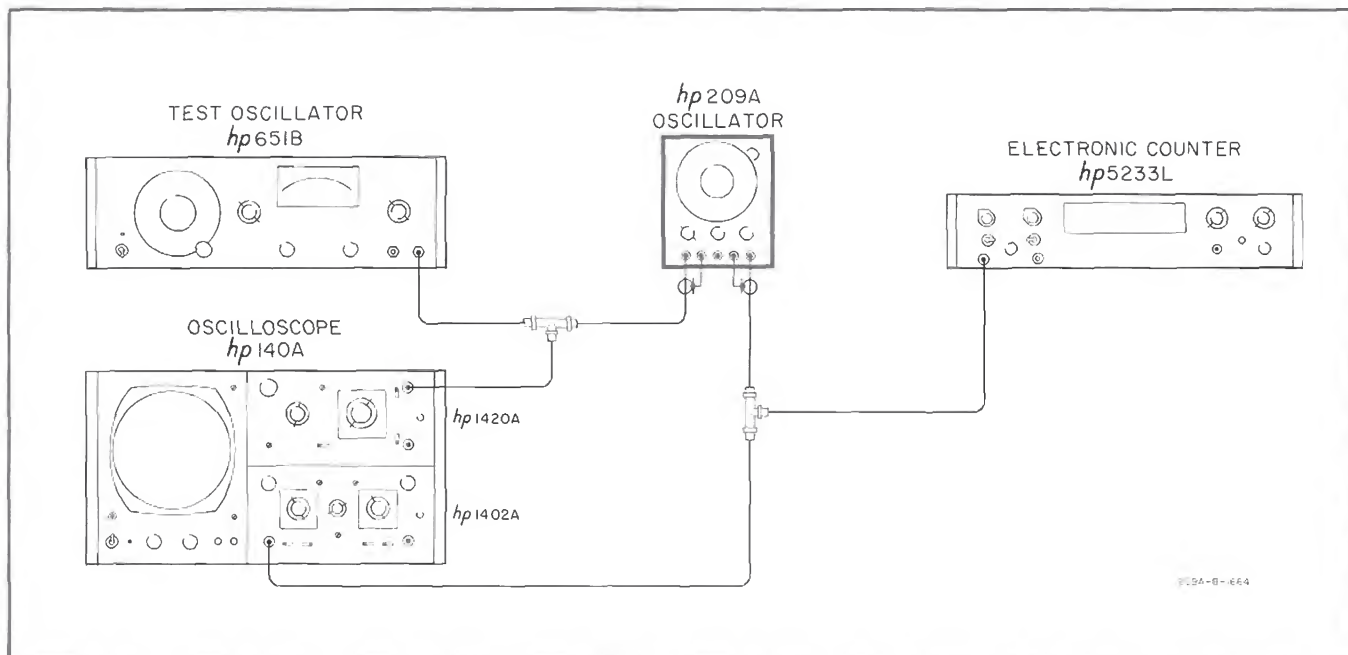

Figure 5-5. Sync Input Check
- c. Without changing the controls set in steps a and b, connect the equipment as shown in Figure 5-5.